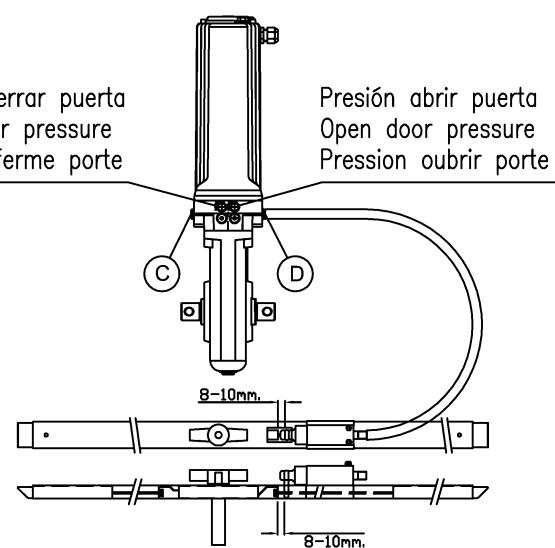

FIG. 9
11. Adjust the pressure of the relief valves (marked "5" and "6" in figure 1) to the minimum possible so that the door dose not move with excess force (see figure 9).
12. If using a hydraulic lock, see figure 9.
- Operators 1RM*D* and 2RMI*D*: Connect the hydraulic lock to the hydraulic lock port (marked "C" in figure 9) for mounting types "A" or "B" and to the hydraulic lock port (marked "D" in figure 9) for mounting type "C".